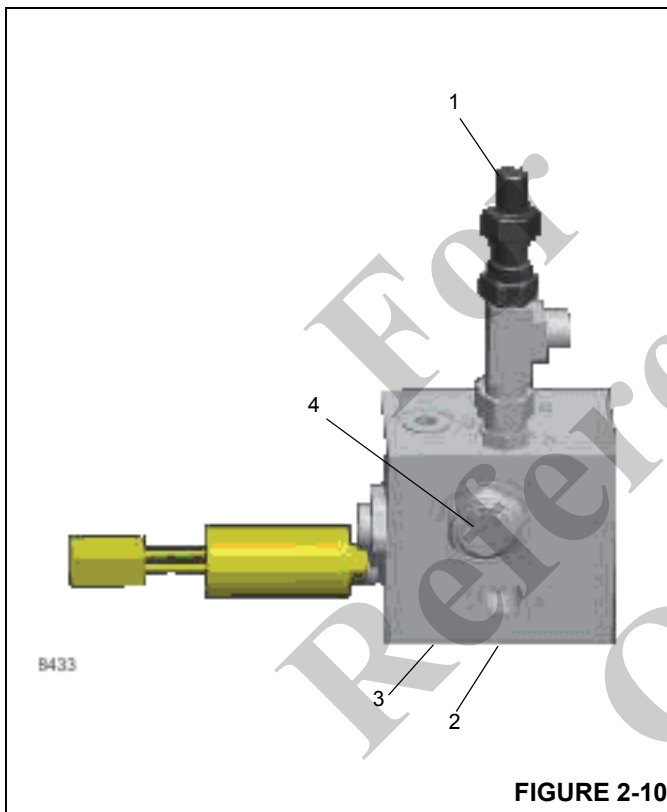

FIGURE 2-10
2. Install a pressure gauge at the service brake dual accumulator charge valve "A1" pressure test port (Figure 2-10).